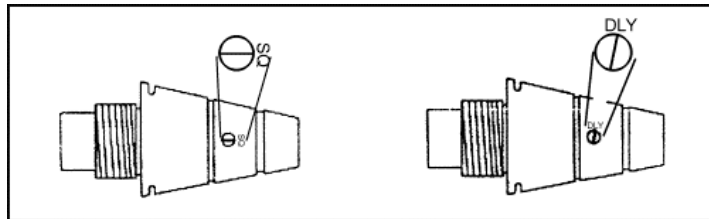

Figure 7-19. Setting the M935 PD fuze.
a. M935 PD Fuze (Figure 7-19).